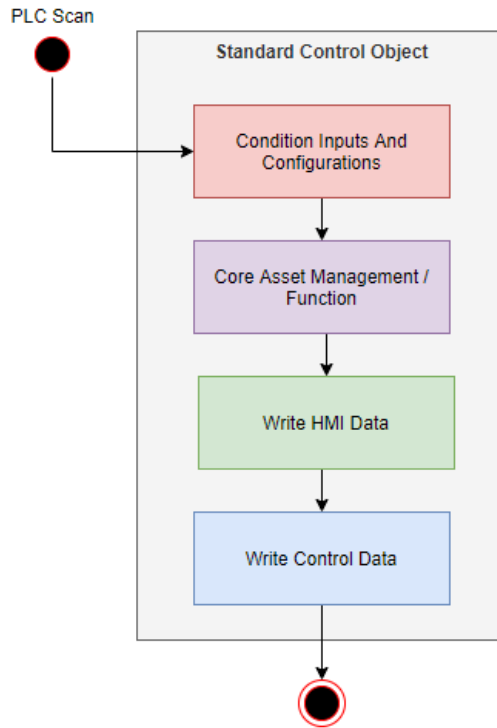

Figure 6.26 – Example of a generic template for standard control block logic
*Figure 6.26* is an example of a layout for generic standard control objects. If all objects in the project follow this general paradigm, then programmers and maintainers of the project will have a much easier time reading the logic within the standard control.
In large standard control objects, each area of the template (*Figure 6.26*) could be created as a function or function block. Each supportive object could then follow the same template internally, keeping the same approach throughout the standard control object.